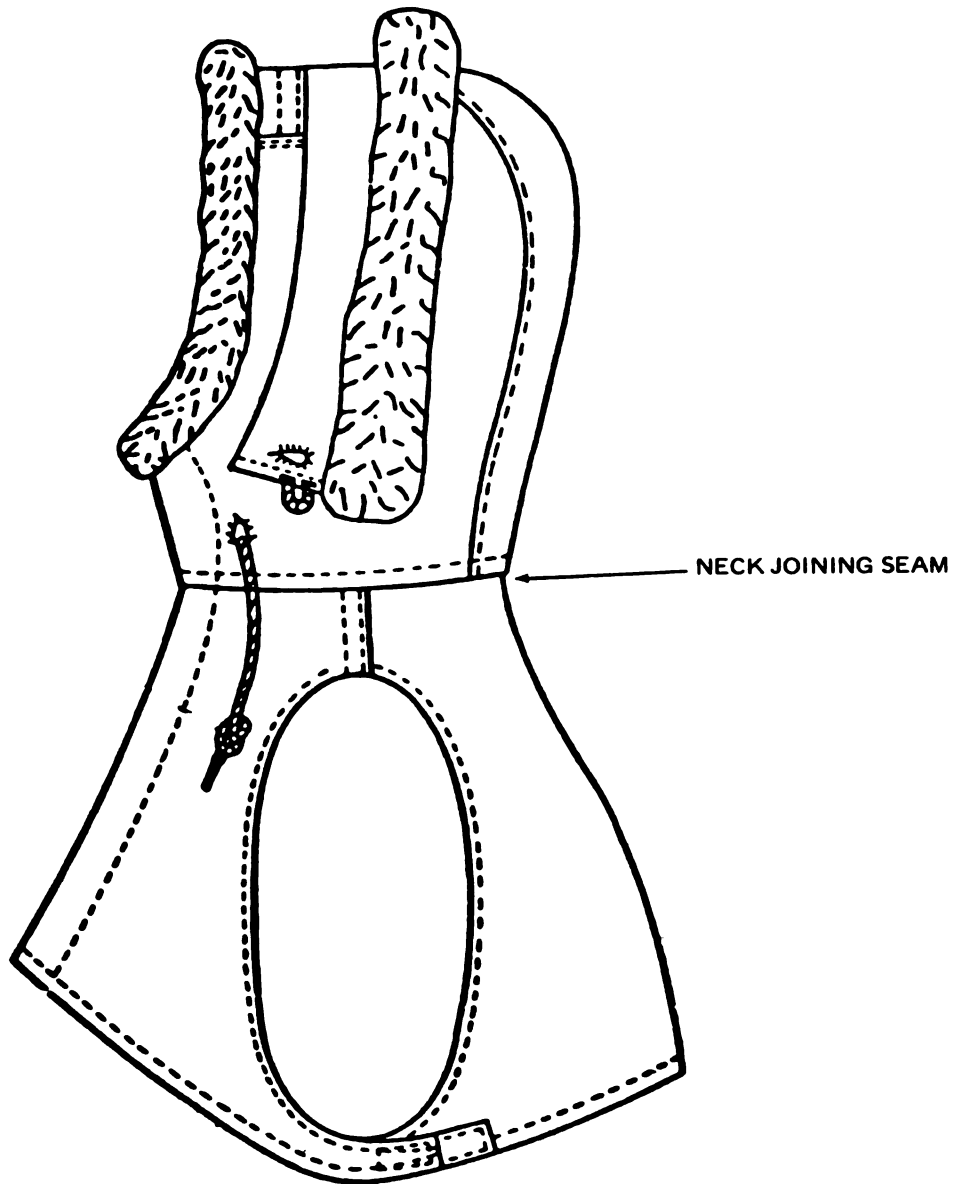

Figure 4-3. Hood Side
- c. At the neck joining seam of the hood, measure up and mark one (1) inch all the way around. Cut on mark line. (See figure 4-3, side view.)